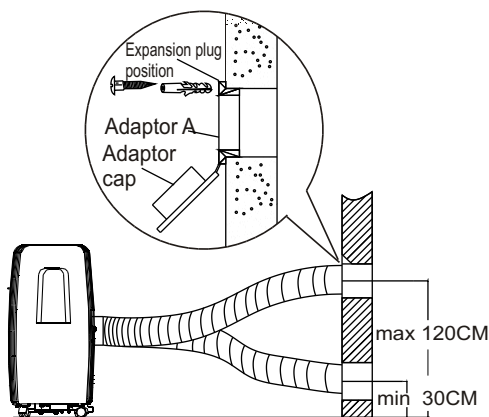

Fig. 6
1. Prepare a hole in the wall. Install the wall Exhaust adaptor A onto the wall (outside) by using 4 expansion plugs and wooden screws, be sure to fix thoroughly. (See Fig. 6)